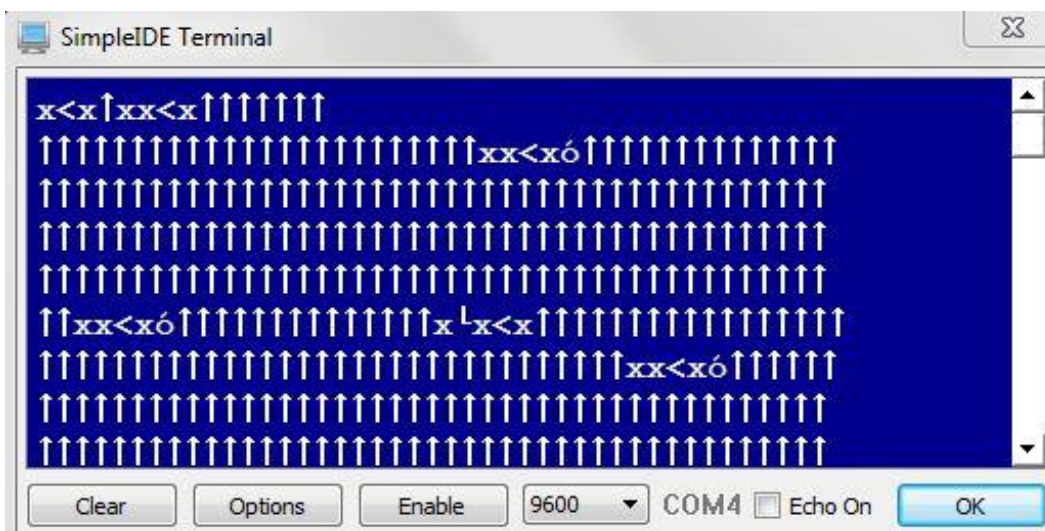

Fig. 11: ASCII characters displayed in SimpleIDE Terminal
13. The SimpleIDE Terminal should display various ASCII characters as seen in **Fig. 11**. The up-arrow ASCII character “↑” has a decimal equivalent of 24 but, though it is the most present character, the up-arrow “↑” signifies a break in the input signal and should be neglected as data.